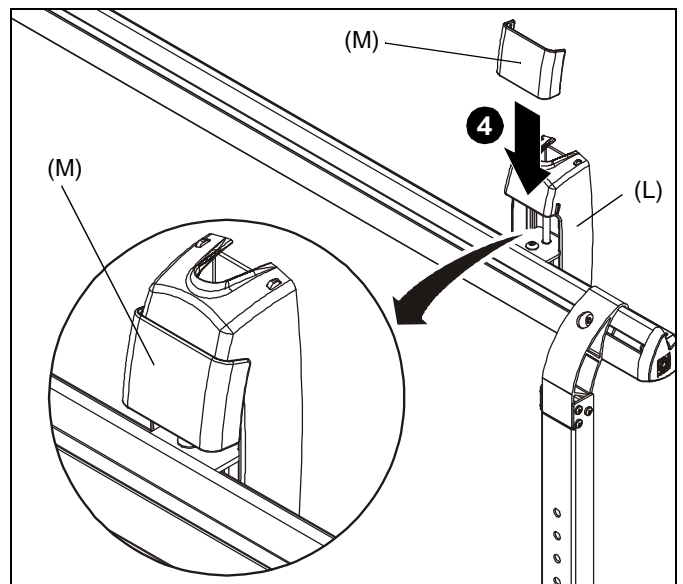

Figure 15
4. Slide the sliding cover (M) down over the wall bracket cover (L) on both wall assembly brackets. (See Figure 15)